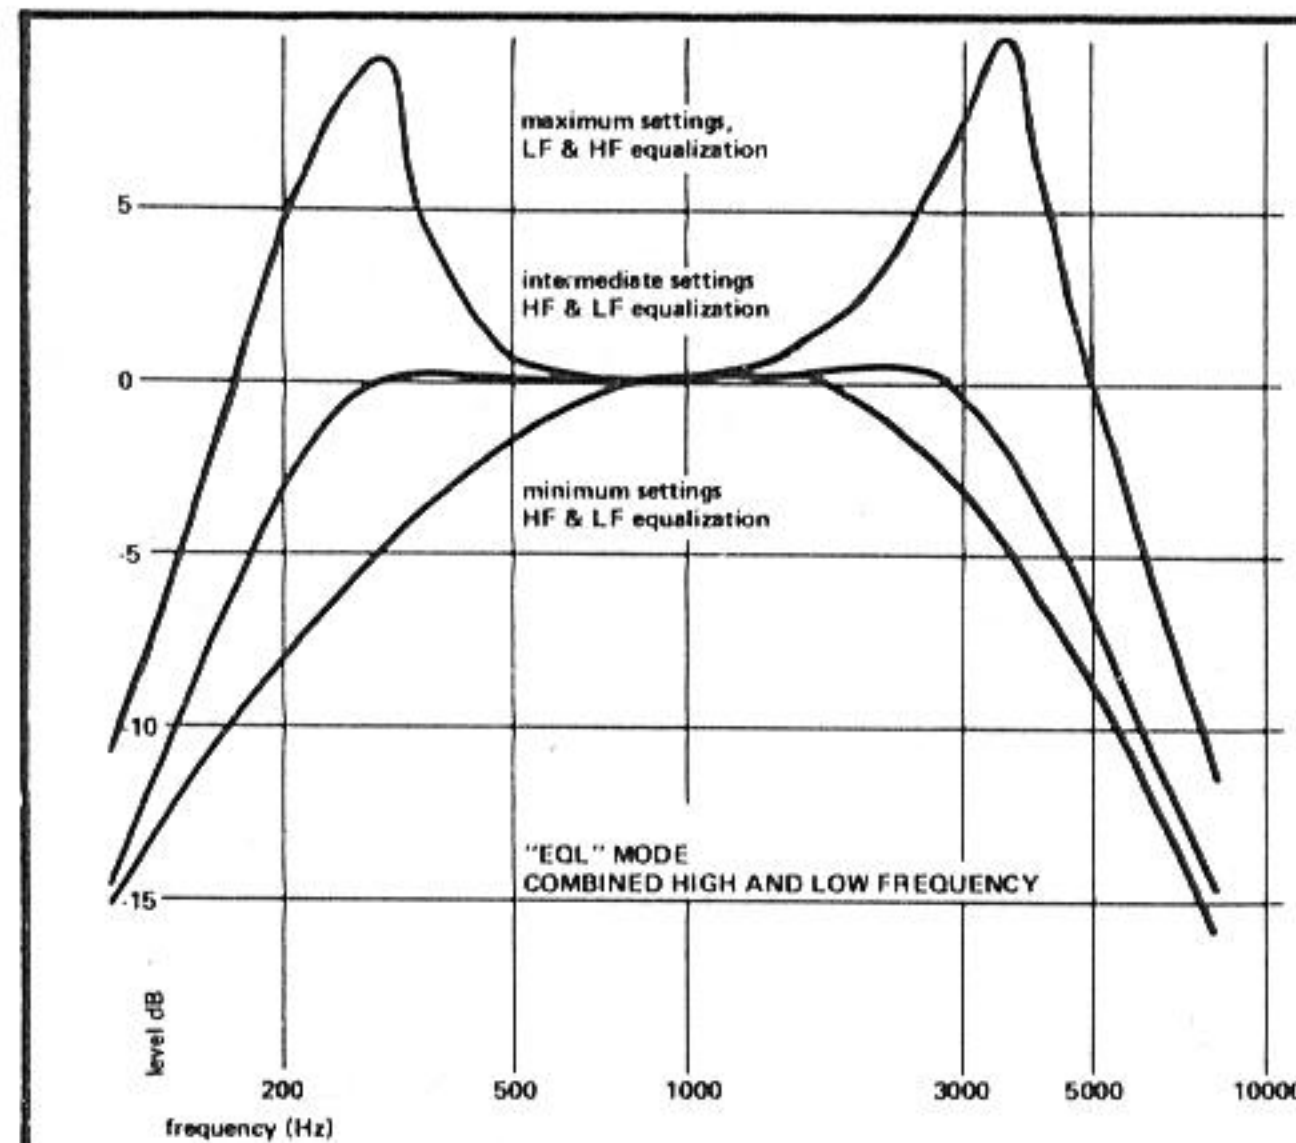
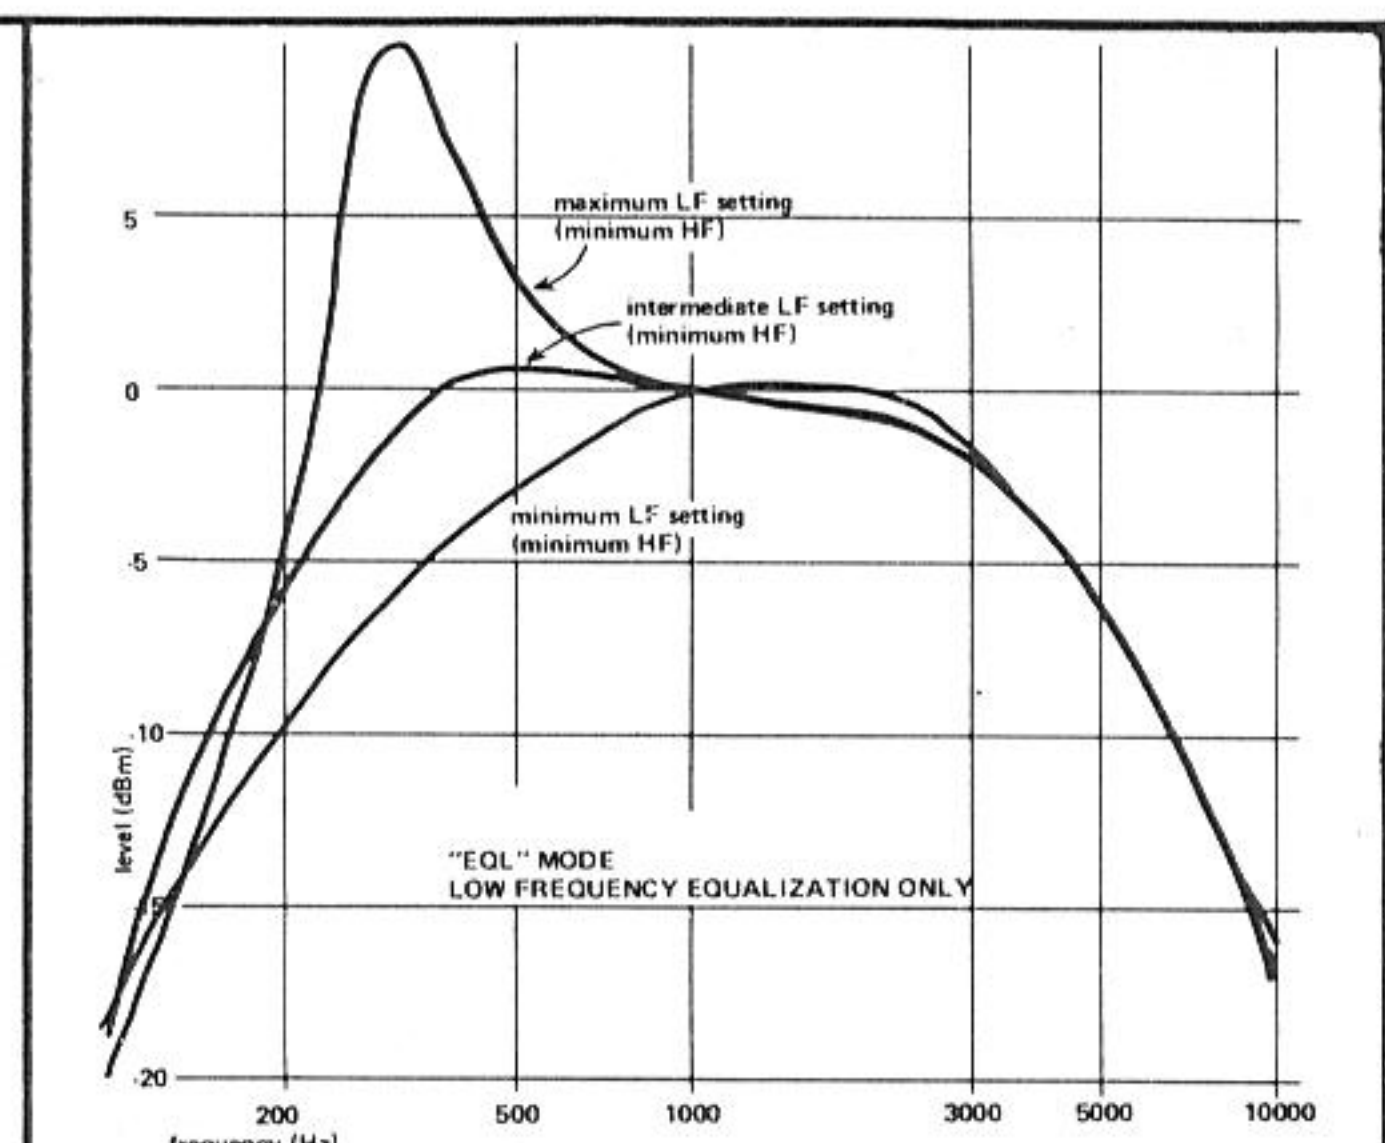
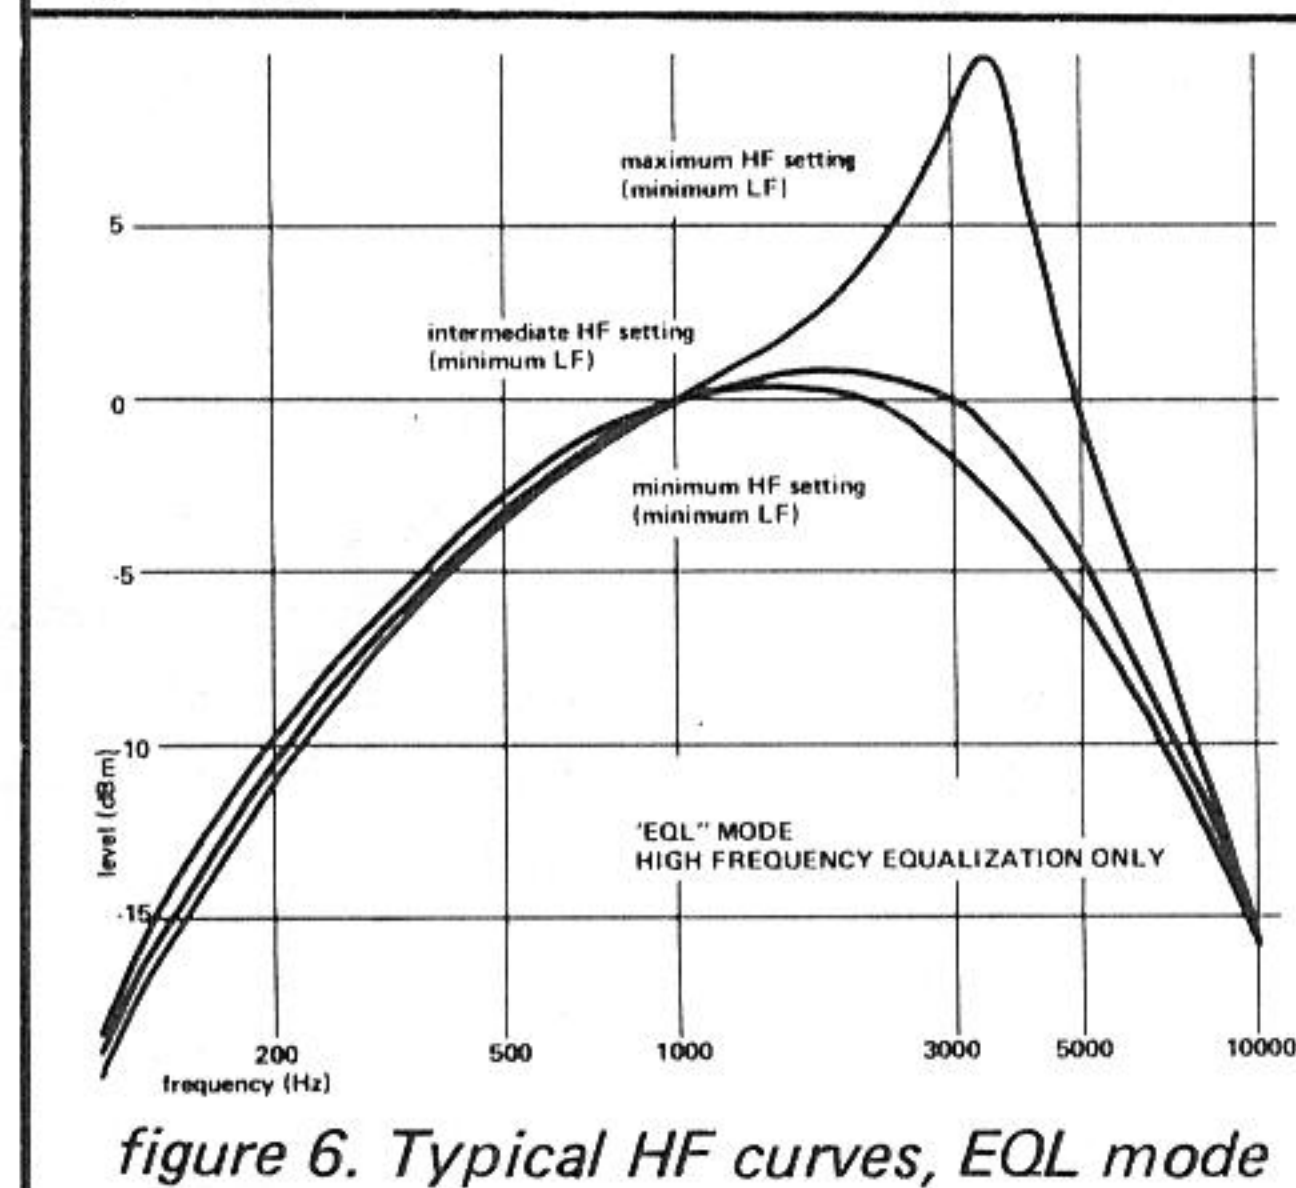

fig 4. Typical combined curves, *EQL* mode
figure 5. Typical *LF* curves, *EQL* mode
figure 6. Typical *HF* curves, *EQL* mode
2.11 With the high-frequency and low-frequency controls adjusted to minimum settings, low-end roll-off begins at approximately 600Hz and high-end response is depressed about 6dB at 3000Hz, with 12dB per octave roll-off above that frequency. At moderate settings of the *LF* and *HF* controls, bumps begin to occur at approximately 300 Hz and 3400Hz. High and low-frequency adjustments do not interact. Figure 4 shows typical response curves for combined high and low frequency equalizer settings in the *EQL* mode. (Use of only the low-frequency control in the *EQL* mode would produce a response similar to the curves shown in figure 5, and use of only the high-frequency control would produce response curves similar to figure 6.)
(see figures 4, 5, and 6 for typical curves)